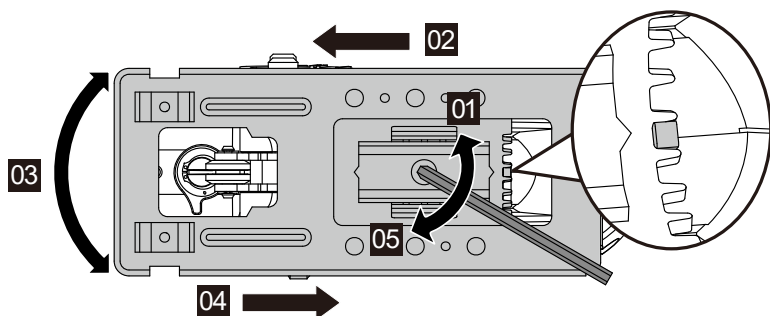

Figure 8
3. BASE PLATE ANGLE ADJUSTMENT (SEE FIG. 8)